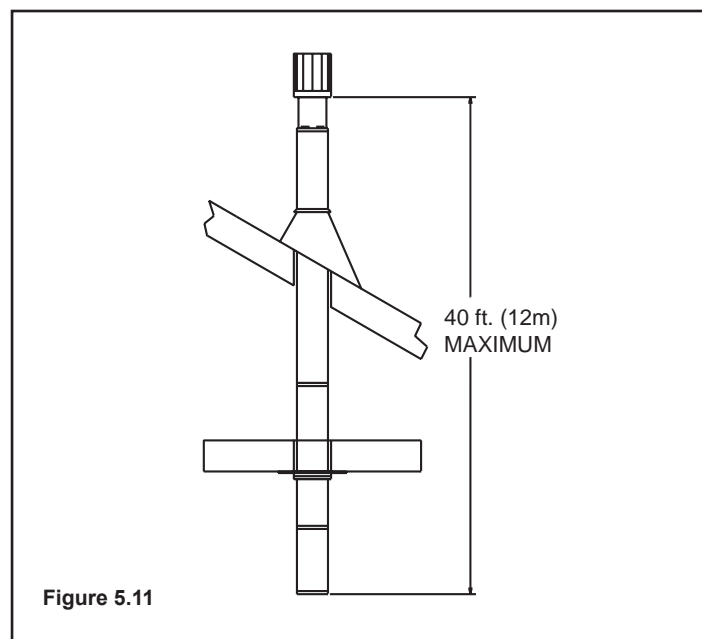

Figure 5.11
**NOTE:** Maximum vertical rise allowable is 40 ft. (12m) See **Figure 5.11**.